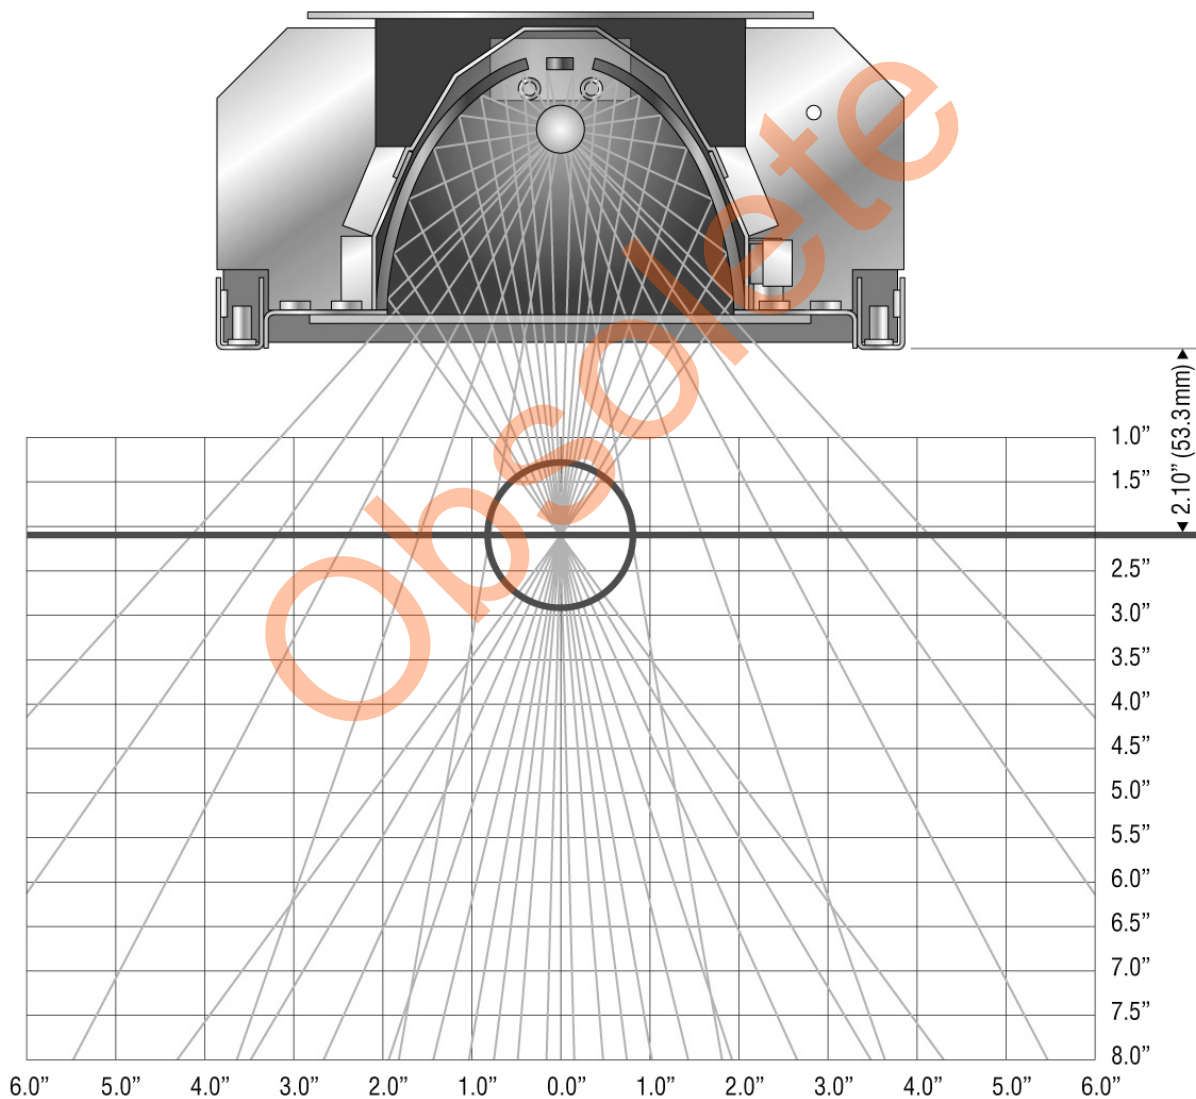

Figure 2-2 2.1 Inch Focus Reflectors
- The focus reflectors are available in 2.1 (53.3 mm) and 3.1 inch (78.8 mm) focal lengths. The focal point is measured from the bottom of the lamphead. See Figures 2-2 and 2-3.